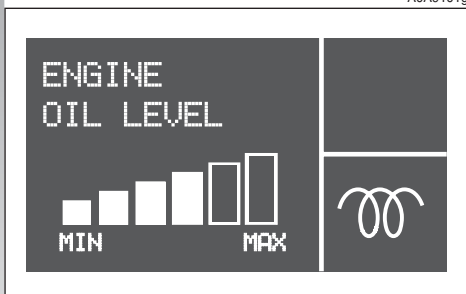

fig. 91
**Fig. 91** refers to the correct engine oil level display. As the oil level gradually falls, the full bars go off leaving room for the empty ones.